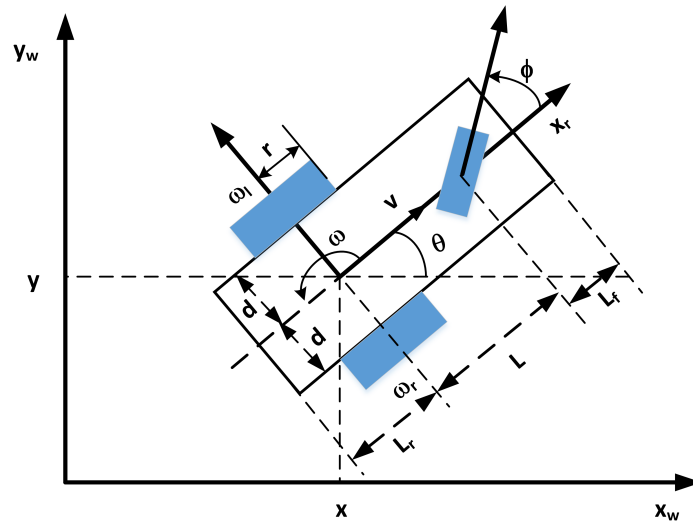

Figure 1: Kinematics of a car-like robot
- Accepting as inputs  $x_t, y_t, \theta_t$ , the current position and orientation in the world frame,  $v_t, \phi_{s_t}$ , with  $v_t$  the linear velocity of the car (of the origin of the car reference frame in figure 1) applied at instant  $t$ , and  $\phi_{s_t}$  the angular position of the steering wheel at  $t$ , and  $\delta t > 0$  a time interval;